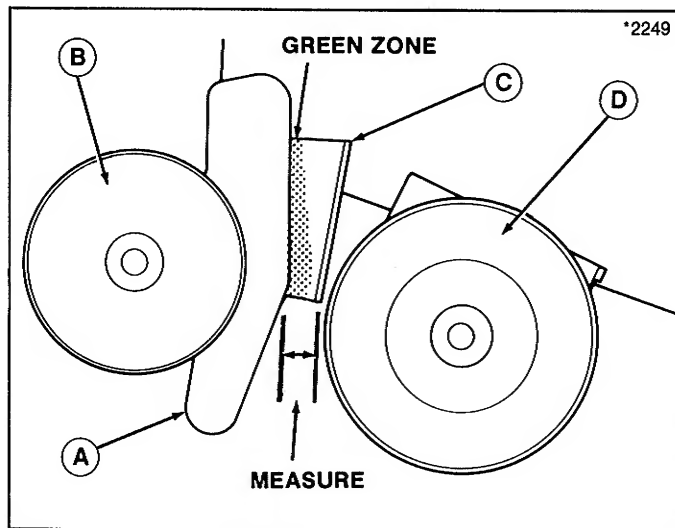

Figure 15. Belt Adjustment
If the belt has been used before, the rear edge of the idler bracket (A, figure 15) should be in the middle of the green zone shown in figure 15. The distance between idler bracket (A) and stop (C) will be approximately 7/8 inch (22 mm).
13. Push the belt tensioning lever down to release belt tension. Loosen the nut that secures the rear idler pulley (D, figure 15) in the slot. To move the idler bracket (A) forward, move rear idler pulley (D) toward rear. To move the idler bracket (A) toward rear, move the idler pulley (D) forward. Tighten the nut to secure pulley. Pull the belt tensioning lever up and recheck position of idler bracket (A). Readjust if necessary.
14. Operate the tractor with mower engaged for 15 to 30 minutes with a new belt or about two minutes with a used belt. Then, disengage the PTO, stop the engine, remove the key, shift into neutral, set the parking brake. Check position of idler bracket (A, figure 15). If the rear edge of idler bracket is in middle of green zone, the belt adjustment is acceptable. If not, readjust the belt as described in step 13.